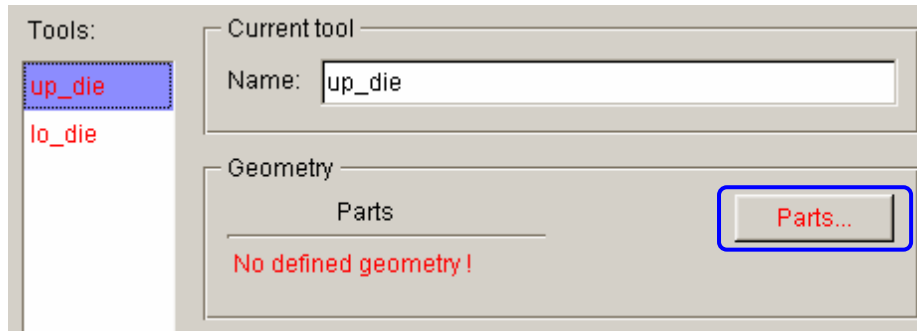

Figure 3.14 Tool definition interface
3. Click **OK** button to return to tool definition interface. Based on the chosen template, two standard tools are defined: up_die and lo_die, located at the left side of tool definition interface. You can continue with definition of each tool. By default, the **up_die** interface is displayed, as illustrated in Figure 3.14.